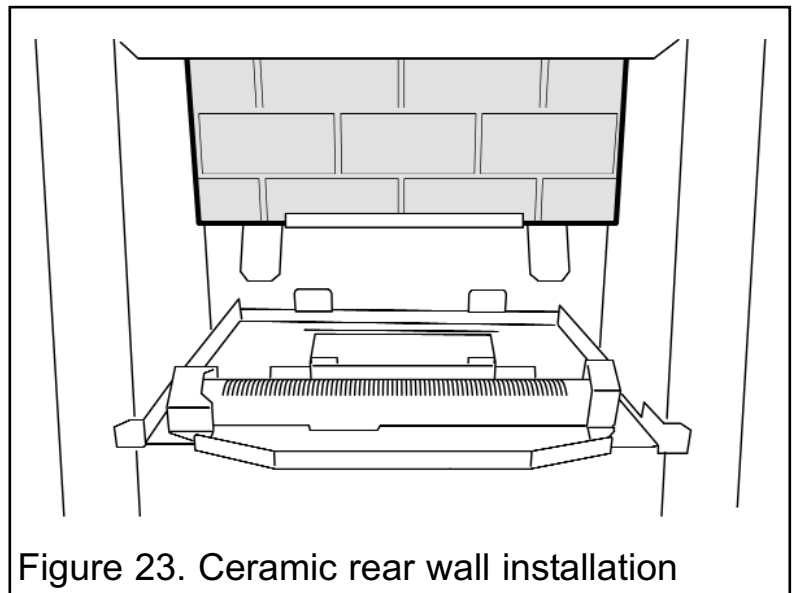

Figure 23. Ceramic rear wall installation
1. Fit the ceramic rear wall inside the "L" bracket on the back face of the burner compartment. Push the ceramic wall flat against the back face of the burner compartment (See figure 23).